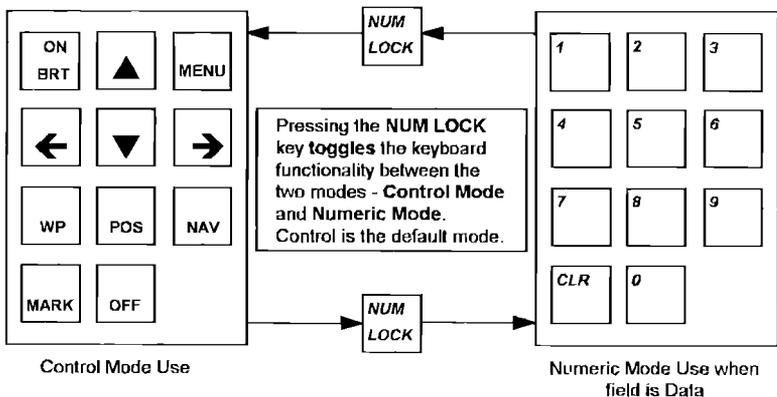

Figure 2-2 Keypad Operation - Control and Numeric Modes.
2.3.1 Keypad Operational Modes. The PLGR keypad operates in either of two modes: control mode or numeric mode. The keypad goes to control mode when the PLGR is powered on. The *NUM LOCK* key is used to toggle between two modes. When the PLGR is in control mode, a P is usually displayed in the lower right-hand corner of the display. S (for scroll) will be displayed when entering or editing a route. When the PLGR is in the numeric mode, an N is usually displayed in the lower right-hand corner. The operation of the keypad in each mode is described in the following paragraphs. Figure 2-2 shows keypad operation in control mode and numeric mode.